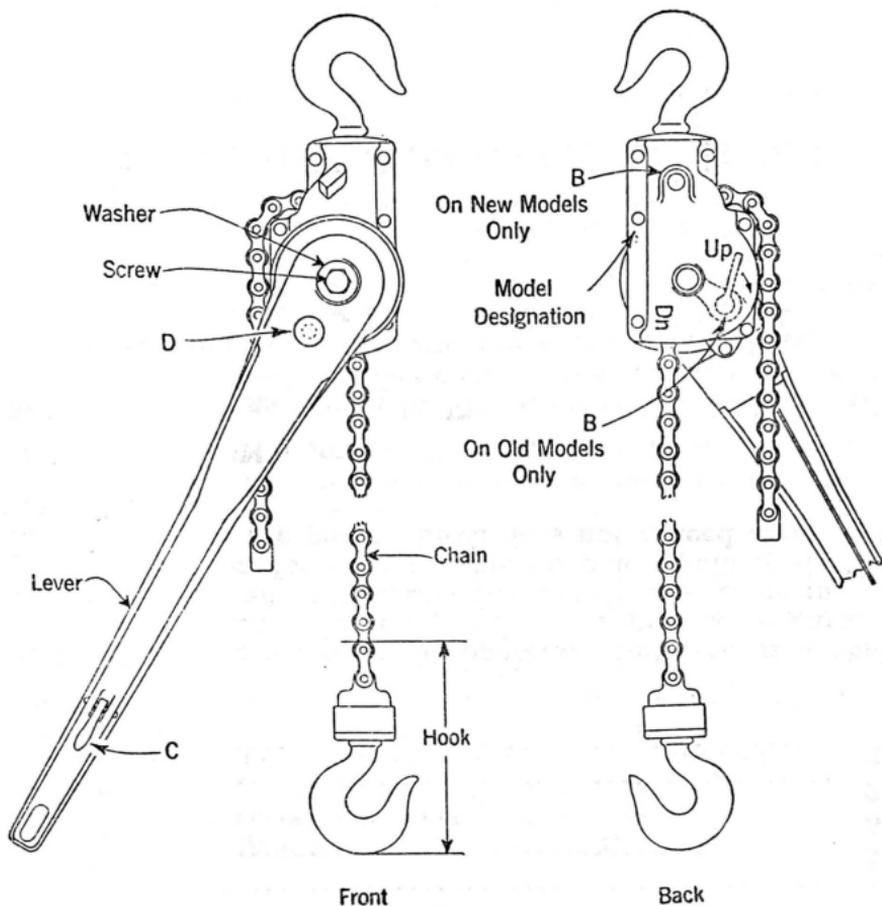

Fig. 1.
2.01 The tool, as shown in Fig. 1, consists principally of a chain, a housing which encloses the sprocket over which the chain is pulled, together with the necessary ratchets, and a hand lever for operating it.
2.03 Three controls are provided and these are indicated by the letters B, C and D in Fig. 1. The position of control B, located on the back of the housing, determines the direction in which the chain moves when the hoist is operated. On old model hoists this control is in the form of a small lever. Its location is indicated by the dotted lines in Fig. 1. When this control is in the position marked UP and the hoist is operated,
the chain is pulled so that the hook end is moved toward the housing, and when it is in the position marked DOWN ("Dn") the chain is moved in the opposite direction. On new model hoists the control is in the form of a button and is located nearer the top of the housing as indicated in Fig. 1. When the button is out, the control is in the UP position and when it is in, it is in the DOWN position. If the button is out it can be pushed in by hand. If the button is in, it will automatically move out when the operating lever is moved to the extreme end of its travel on the return stroke.
7.01 Replacements of the lever, hook, chain, screw or washers, see Fig. 1, can readily be made in the field. Whenever replacement of any of these parts is necessary, the names of the new parts desired and the Model designation of the hoist for which they are intended must be supplied on the order. The old hoist having the lever type control is designated as Model F. The new hoist having the button type control is designated as Model FI. The Model designation is stamped on the flange of the housing at the location indicated in Fig. 1.